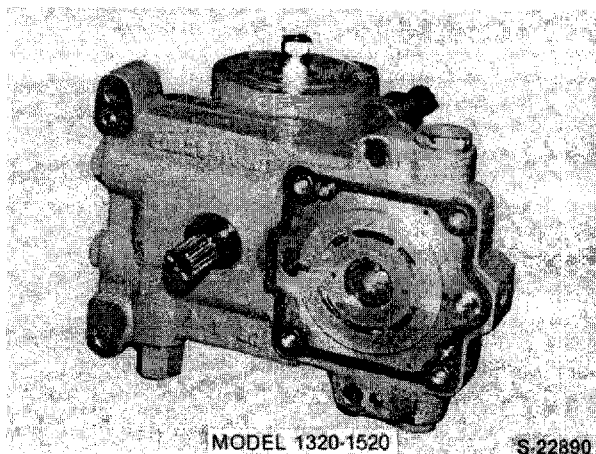

Figure 73
4. Install the port valve plate onto the port block, Figure 73.